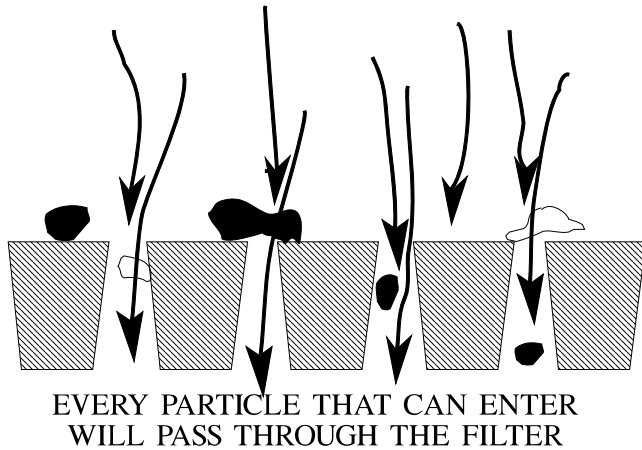

Fig. 1 - Tapered Flow Paths Helps Prevent Plugging
**SURFACE FILTERS** have a single surface that catches and removes dirt particles larger than the holes in the filter. Dirt is strained or sheared from the oil and stopped outside the filter as oil passes through the holes in a straight path (Fig. 1). Many of the large particles will fall to the bottom of the reservoir or filter container, but eventually enough particles will wedge in the holes of the filter to prevent further filtration. Then the filter must be cleaned or replaced.